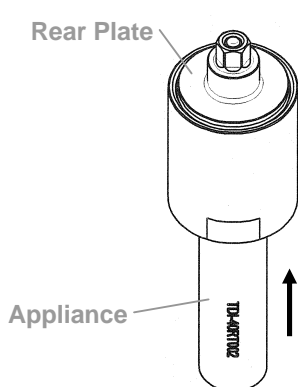

Fig. 424
- ② Use the appliance to push out the rear plate from the pulse cylinder seat. See Table 55 in reference to the proper appliance selection. (Fig.424)